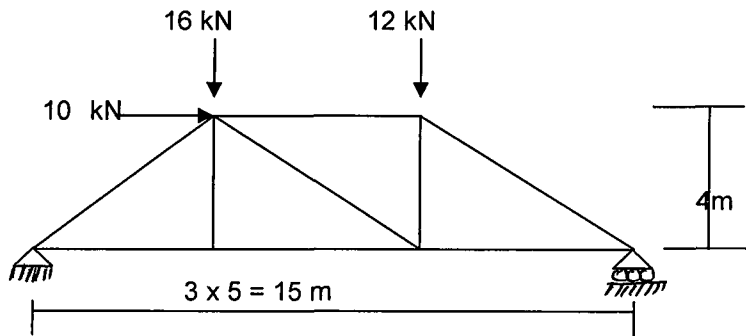

Fig. Q.13(a)
13. (a) Analyze the simply supported truss shown in Fig. Q.13(a) by method of joints.